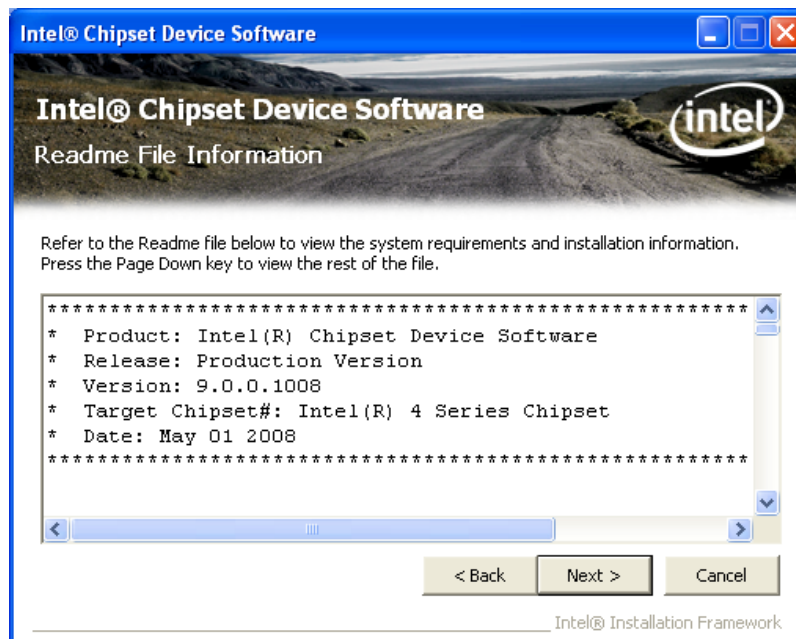

Figure 6-5: Chipset Driver Read Me File
Step 10: The **Read Me** file in **Figure 6-5** appears.